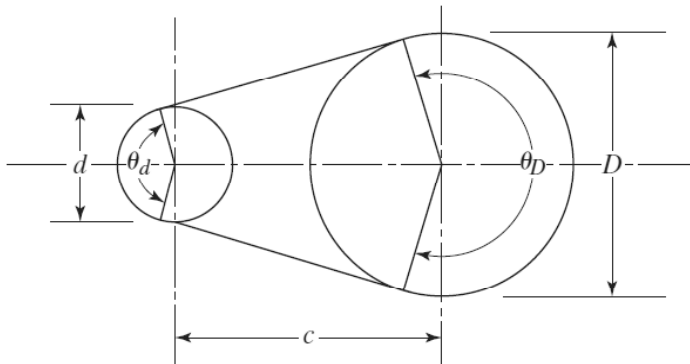

Figure 1 : Open belt drive.
The length L of a belt in an open-belt drive, Figure 1, is given by
- Specific to our open belt drive problem in Figure 1,